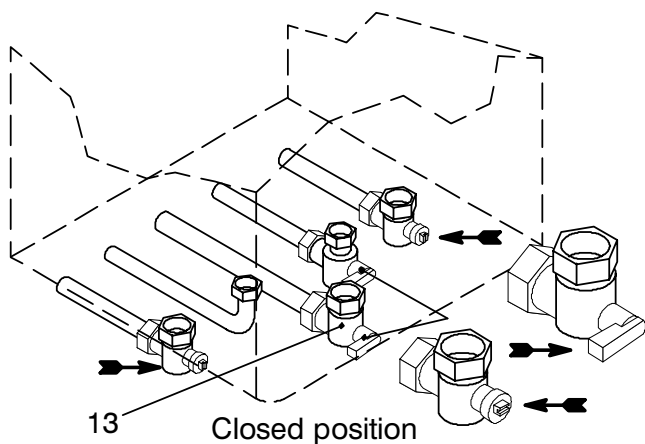

Fig. 2.13
- 2 Shut off the gas supply cock 13 and the valves for the water circuits fitted under the boiler (Fig. 2.13).